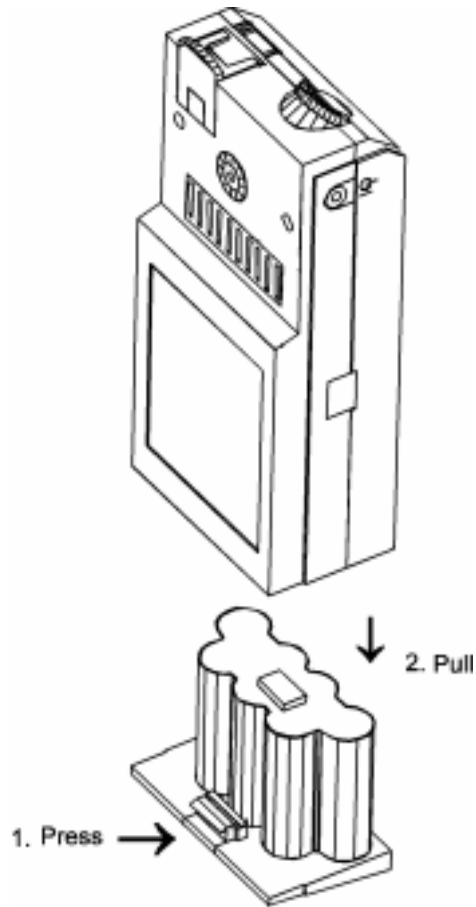

Figure 7-1: Removing the Battery Pack
1. Be sure the monitor is disconnected from mains line power and remove the battery pack from the monitor; press the release button at the bottom of the monitor and pull out the battery pack as shown in Figure 7-1: Removing the Battery Pack.